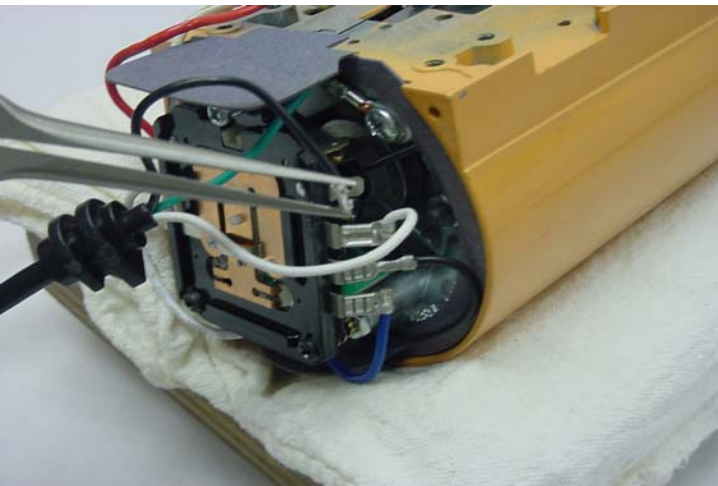

Fig. 14 Removal of the cord flag terminals and cord ground wire.
A. Start the disassembly of the control unit by removing the cord flag terminals from the control board and the ground wire from the bearing bracket (Fig. 14).